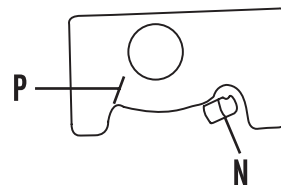

Fig. HN1-16—If brake wear indicator (N) is near wear limit point (P), replace brake shoes.
To check brake shoe wear, depress the brake pedal and note position of the brake wear indicator (N—Fig. HN1-16) located near the brake assembly on the transaxle. If the indicator is near the wear limit point (P), replace the brake shoes.